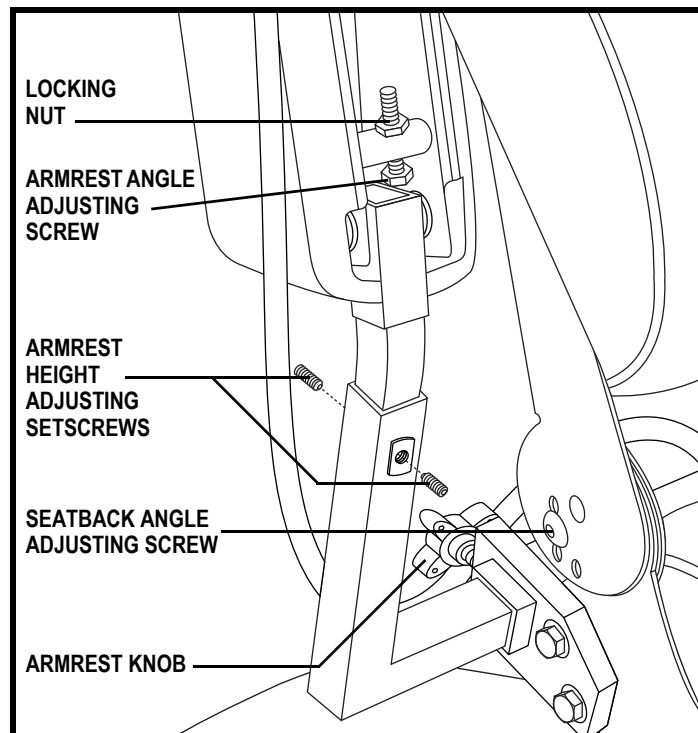

Figure 18. Seatback/Armrest Adjustment
1. Remove the adjusting screws from each seat hinge. **See figure 18.**
1. Locate the two armrest knobs on each side of the armrest receiver bracket. **See figure 18.**
1. Lift the armrest straight up so that it is perpendicular to the floor. **See figure 18.**
1. Loosen the two setscrews located on the armrest receiver. **See figure 18.**